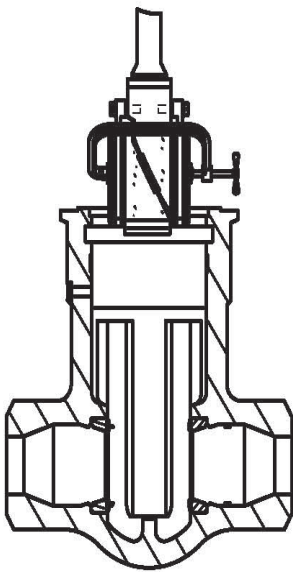

Figure 18
## 6.4 Disc Pack & Stem Assembly (Figs. 18 & 19)
- c) Before the disc pack is free of the body guides, C-clamps should be installed as shown in Fig. 18. This will prevent the discs from disengaging from the upper wedge and falling causing damage or injury.
- f) If further disassembly is required, the lower wedge (071) can now be separated from the upper wedge (069). In most valves, a wedge spring (269) is fitted between the upper and lower wedges in order to prevent premature wedging if the valve is installed in a vertical